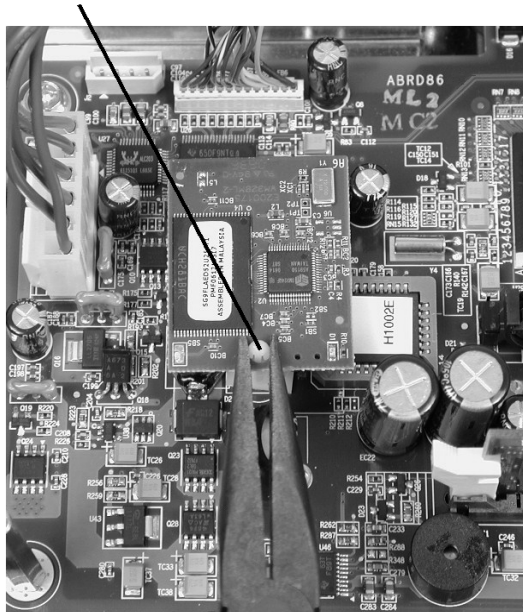

Figure 3-11: Removing the USB Flash Drive
2. Refer to Figure 3-11. Use a pair of needle nose pliers to pinch the stand-off and remove the device from J5.